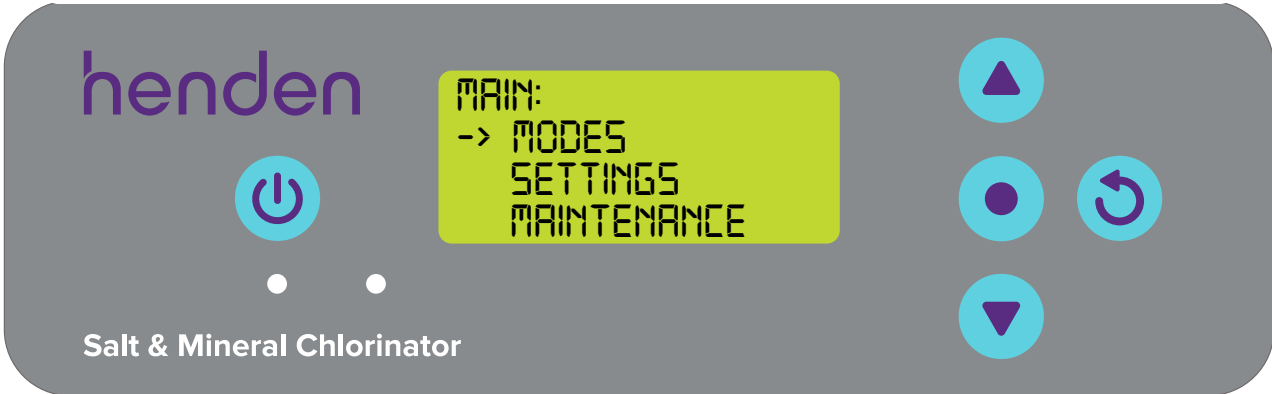

Figure 8.3
- From the **HOME SCREEN**, press the **menu/setting select** button. This will now show the main menu (Figure 8.3);